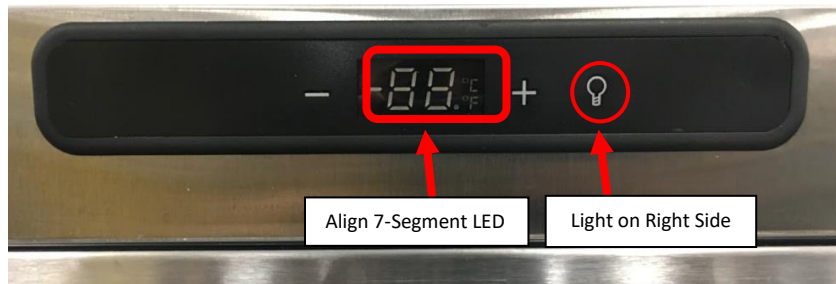

Figure 97: Overlay Replaced.
- I. Peel the sticker off the New Overlay and install the New Overlay. Do not reuse the Old Overlay. Make sure to align the 7-segment LED. The light symbol should be on the right side. **See Figure 97.**
- vii. Peel the sticker off the New Overlay and install the New Overlay. Do not reuse the Old Overlay. Make sure to align the 7-segment LED. The light symbol should be on the right side. **See Figure 97.**